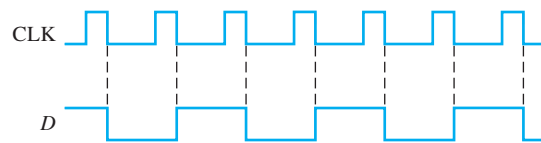

FIGURE 7-80
11. Solve Problem 10 for the inputs in Figure 7-80.